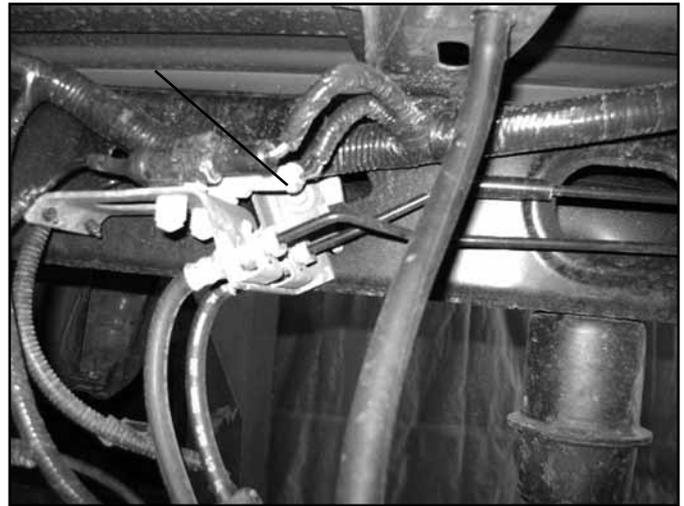

Fig 33
6. Disconnect the rear brake line from the frame. (Fig 33)